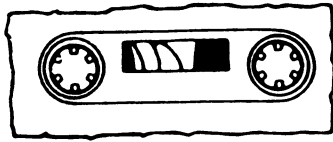

Fig. 1
1. Check that there are no loose layers of tape visible through the cassette centre window (see fig. 1) Take-up these loose layers using a pencil or ballpoint pen before inserting the cassette into the machine (see fig. 2).